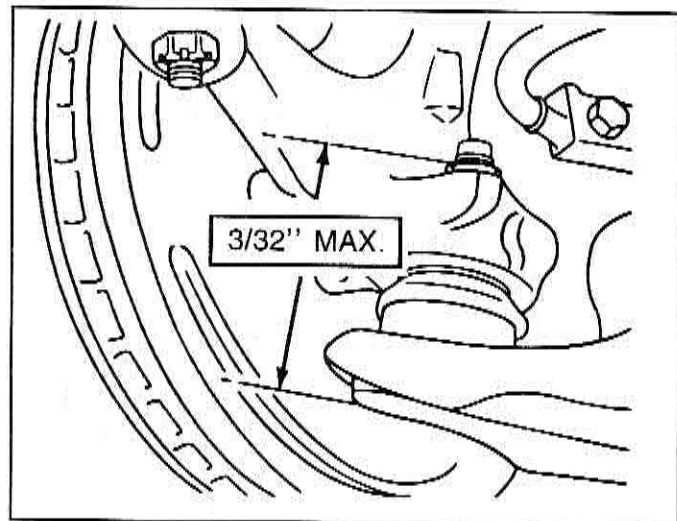

Figure 3-5 — Lower Ball Joint Check
3. Move support to control arm to allow wheel hub and drum to hang free. Measure distance as in Step 2. If the difference in measurements exceeds 2.38 mm (.094 or 3/32 inch) for all models, the ball joint is worn and should be replaced. (See Figure 3-5.)